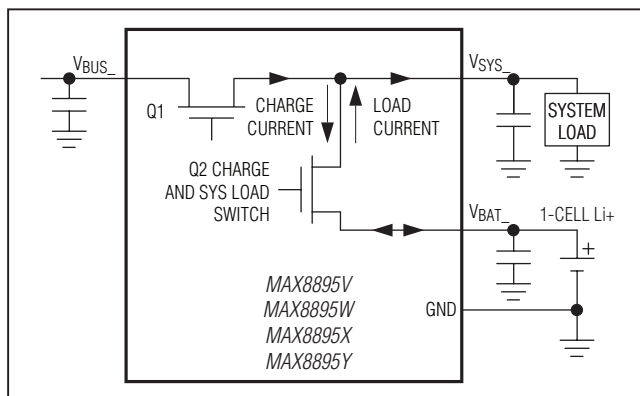

Figure 19. Smart Power Selector Block Diagram
The Smart Power Selector seamlessly distributes power between the external VBUS\_ input, the battery (VBAT\_), and the system load (VSYS\_). See Figure 19. The Smart Power Selector basic functions are:
An internal 55mΩ (typ) MOSFET connects VSYS\_ to VBAT\_ (Q2, Figure 19) when no voltage source is available at VBUS\_ and VBAT\_ is above the battery UVLO threshold. When an external source is detected at VBUS\_, this switch controls the charging of VBAT\_ and VSYS\_ is powered from the valid input source through the input current limiter.
- **Input Voltage Limiting:** If the VBUS\_ input voltage is above the overvoltage threshold (VBUS\_OVP), the MAX8895\_ enters overvoltage lockout (OVL). OVL protects the MAX8895\_ and downstream circuitry from high-voltage stress up to 16V at VBUS\_. In OVL, VINT\_3V3 remains on, the input switch that sees overvoltage (Q1, Figure 19) opens, FLT is pulled low, and UOK, CHG, DET\_DONE, and PREQ become high-impedance. In OVL, the charger turns off. The VBAT\_ - VSYS\_ switch (Q2, Figure 19) closes, allowing the battery to power VSYS\_. VBUS\_ is also invalid if it is less than VBAT\_, or less than the USB undervoltage threshold (VBUS\_UVLO\_F). With an invalid input voltage, VSYS\_ connects to BAT\_ through a 55mΩ (typ) switch (Q2, Figure 19).